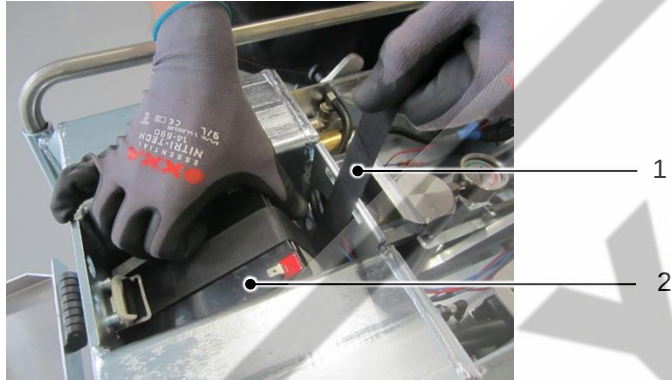

Figure 7.2 View of battery
- 3 Tilt the battery while pulling on the Velcro strap (see Figure 7.2 'View of battery').